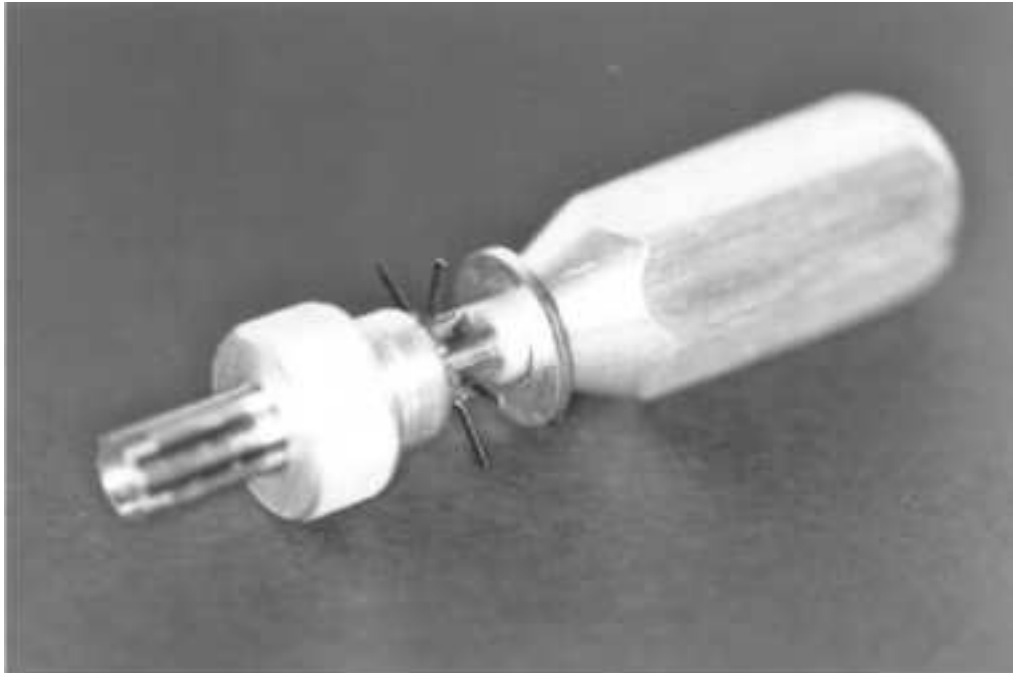

**Figure 2.27** A tubular key lock pick is needed to pick tubular key locks.
- Tubular-key lock picks (Fig. 2.27 )